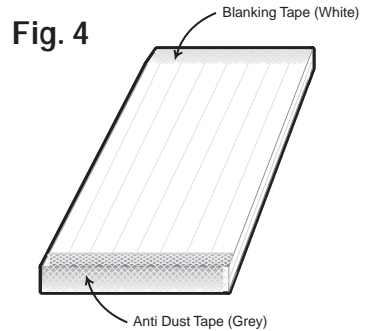

Fig. 4
Step 5: Ensure the sheet is free of any swarf or dust by blowing air through the flutes and seal the ridge end of the sheet using blanking tape (Ref. BT10). This permanently closes the ridge end of the sheet stopping any further ingress of dirt or moisture (Fig. 4). Sealing of the sheet can be done at the factory prior to delivery.
Step 6: Seal the eaves (gutter) end of the sheet with anti-dust tape (Ref. ADT10), this closes the eaves end helping to prevent dust entry whilst allowing condensation drainage (Fig. 4). Sealing of the sheet can be done at the factory prior to delivery.